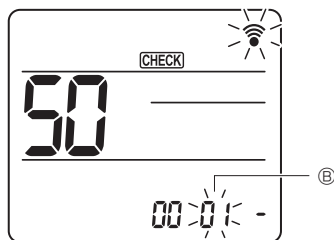

Fig. 15-3
Press the **[↓]** button to set Mode number ②. (Fig. 15-3)